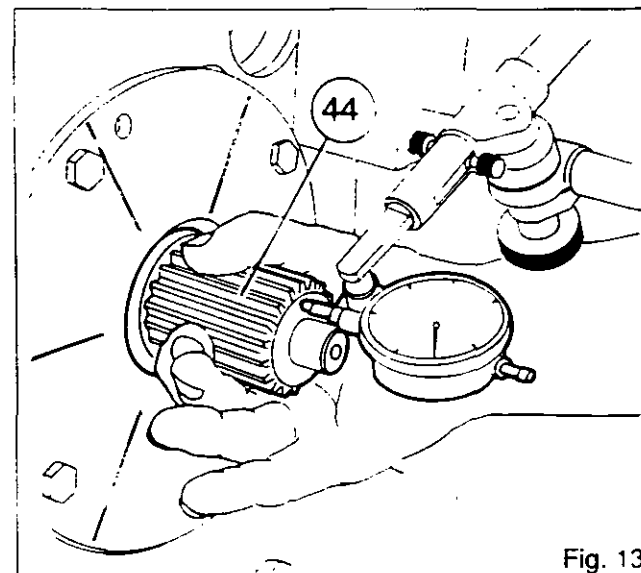

Fig. 13
**N.B.:** In the case of gearboxes fitted with creeper gears, use the gearbox ring (Fig. 13) rather than the retainer ring. Tighten the bolts to a torque of 34 - 52 Nm.